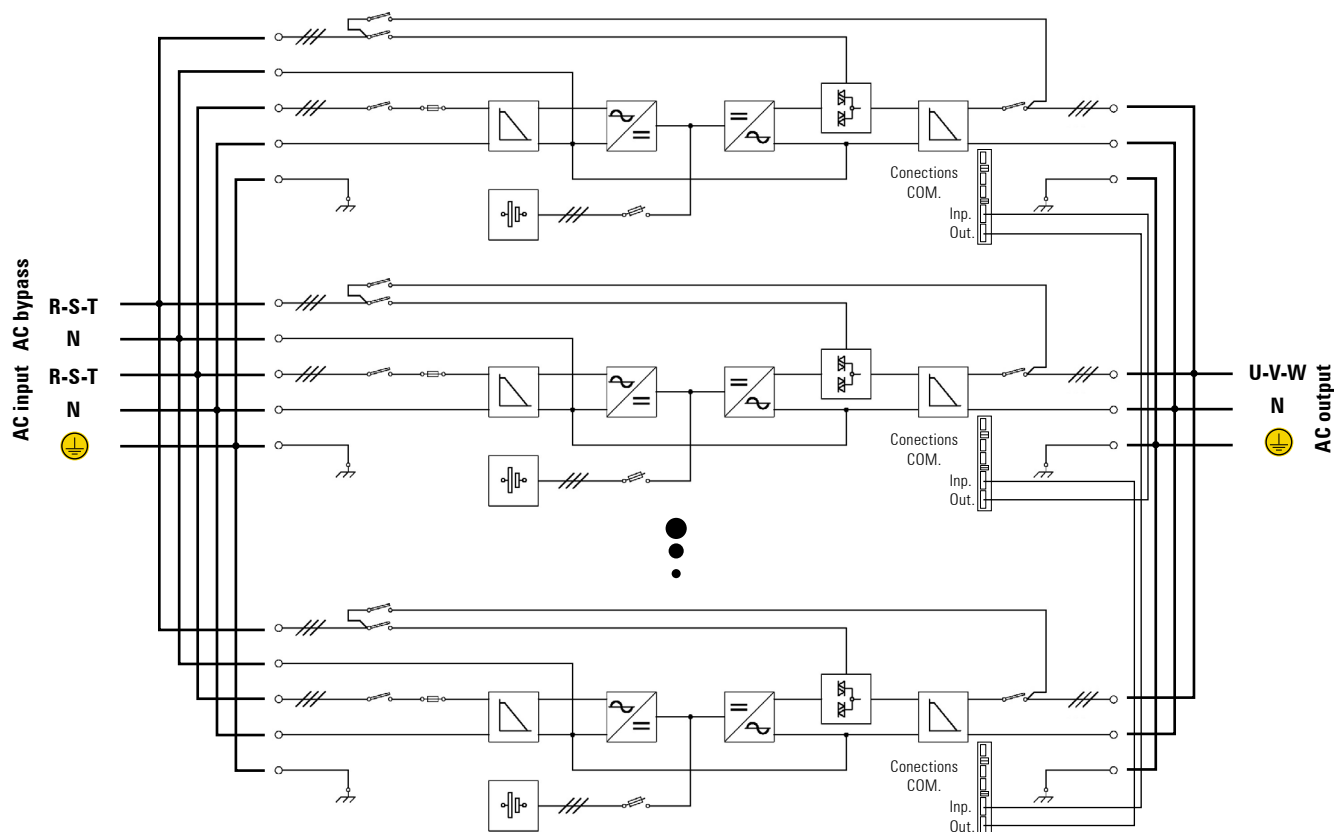

Fig. 29. Single line diagram, connection of parallel system up to 4 SLC CUBE3+ PS B equipments.
In general and less some particular cases, the UPS has sealed lead-acid batteries. In order to avoid its deterioration during the storage, they must be recharged in the stated period of time according to the temperature that they are exposed (see last charge written down in the labeling stucked in the equipment packaging or in the battery module, see Fig. 29).
- ☐ Once the battery recharging is finished, proceed to shutdown the equipment, disconnect it electrically and store the UPS and batteries if any, inside their original packaging, by writing down the new data of battery recharge into the label box (see Fig. 29).